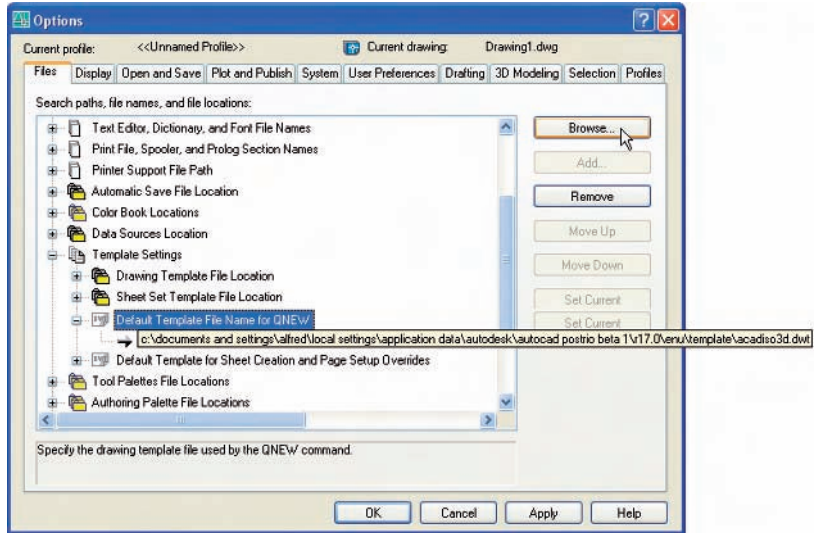

Fig. 16.5 Setting the default window in the **Options** dialog
6. In the **Options** dialog *click* the **Files** label and *click* **Default Template File Name for QNEW** (Fig. 16.5), followed by a *click* on the **Browse . . .** button which brings up the **Select template** dialog, from which the **acadiso3D.dwt** can be selected. Now when